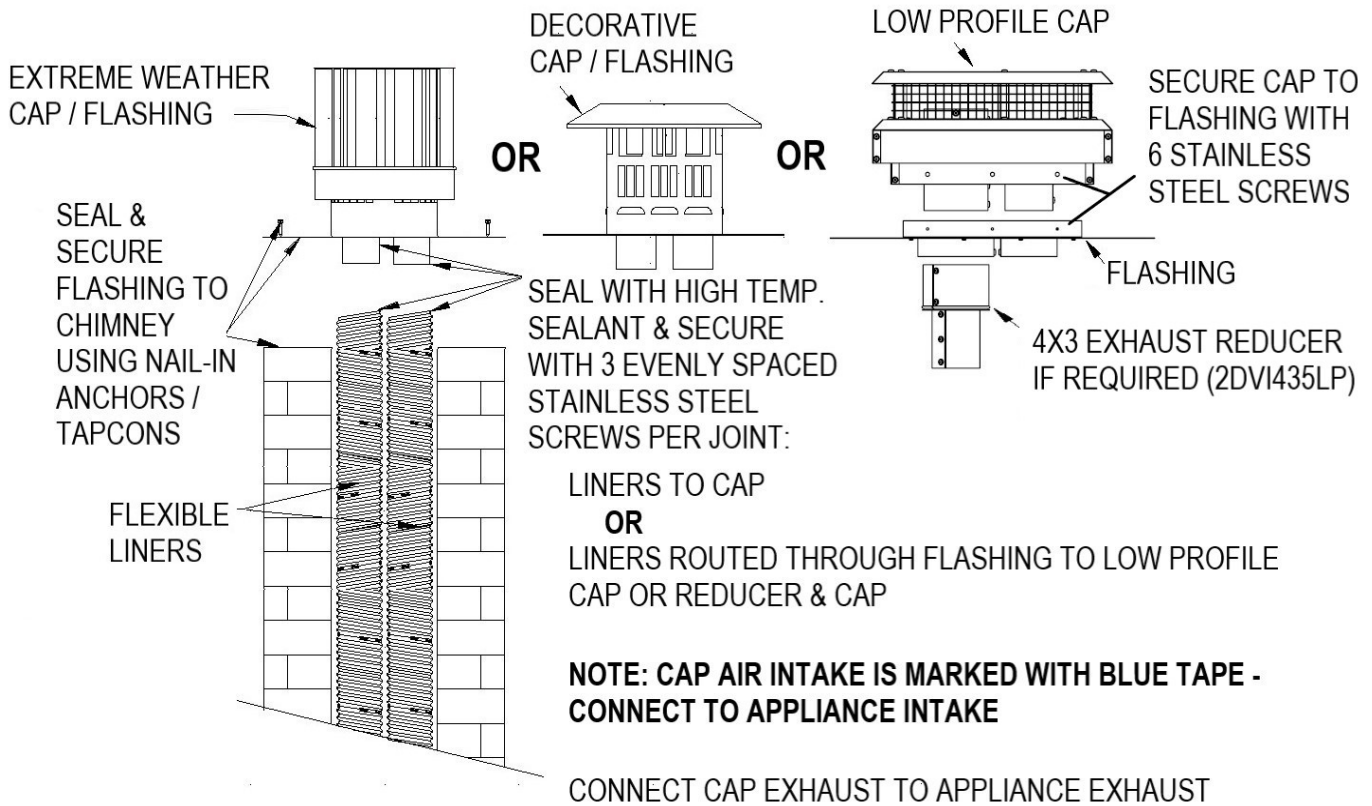

Fig. 3 Installation Top of Chimney
- Using a hacksaw, snips or cutting wheel trim the liners to the required height. Attach liners to Cap/Flashing or through Flashing to Low Profile Cap or through Flashing to 3" end of Exhaust Reducer (if required) and then attach 4" end of Reducer to Low Profile Cap exhaust using high temperature sealant (field supplied) and secure with three (3) evenly spaced self-drilling screws per joint included in kit. (See figure 3)
- Secure Flashing to chimney using nail-in anchors. Caulk all joints with a quality silicone sealant and paint if required (both field supplied). (See figure 3)